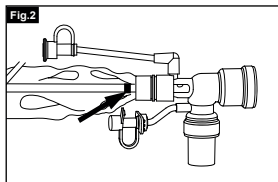

Fig. 2
3. Press and hold thumb control valve. Gently withdraw catheter and stop withdrawal when black marking ring is visible inside sleeve (Fig. 2).
1. The black marking ring must be visible in the sleeve (Fig. 2); then open cap on irrigation port.